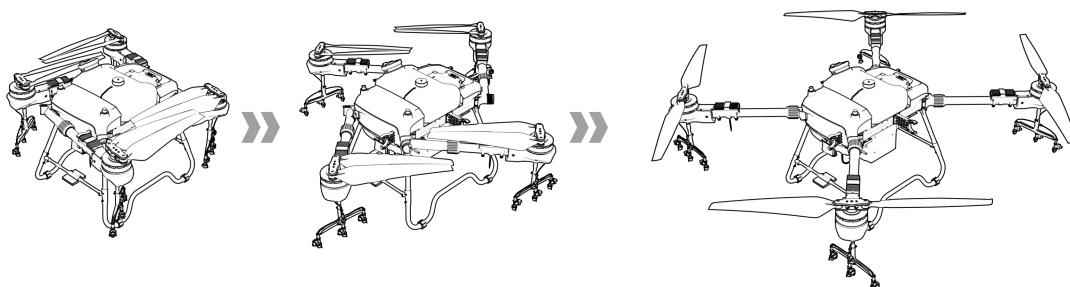

Figure 1-4-3 Arms Folded
**Step 3:** Unfold the arms. See Figure 1-4-3.